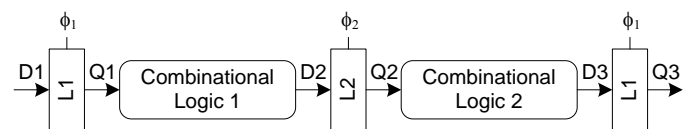

Fig. 6
- Consider the sequential circuit as shown in Fig. 6. Assume period of  $\phi_1 = \phi_2 = 12ns$ ,  $t_{ccq1} = t_{ccq2} = 0.5ns$ ,  $t_{pcq1} = t_{pcq2} = 1.5ns$ ,  $t_{hold} = 1.2ns$  and the clock skew =  $1ns$ . (5%)